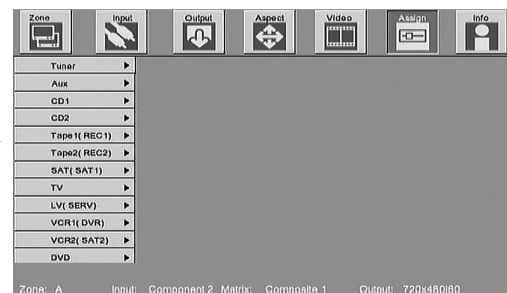

Figure 4
3. Press the ►RIGHT push-button using the supplied Remote Control to select the ASSIGN Icon. Refer to figures 4 and 12.